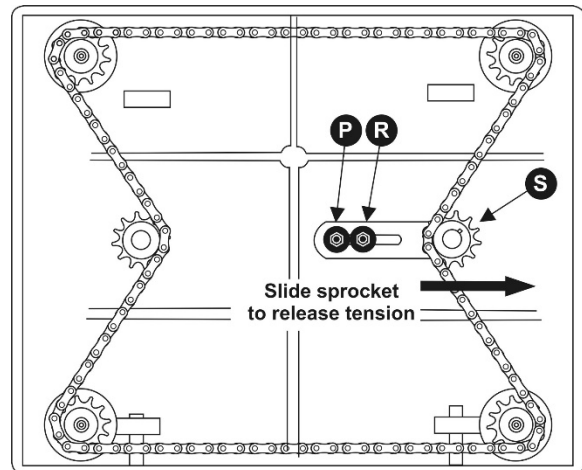

Figure 9-3
4. Remove bolt (P, Figure 9-3) and loosen bolt (R) which will allow enough movement of idler sprocket assembly (S) to release tension on chain.
- When adjustments are correct, replace chain around corner sprocket, slide idler sprocket (S, Figure 9-3) back to re-tension chain, tighten bolt (R) and insert and tighten bolt (P).